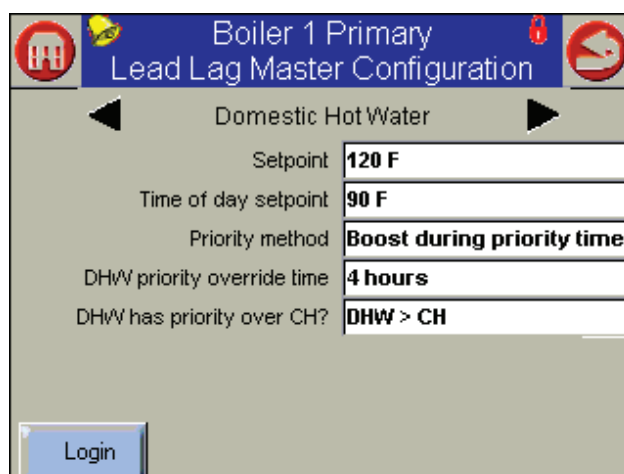

Fig. 121 – Domestic Hot Water
- Press the button for Advanced Settings. This leads to a “ring” of related screens, and you can scroll through the list by pressing one of the left- or right-arrow symbols. Press the left-arrow or right-arrow until you see the Domestic Hot Water screen (Fig. 121).